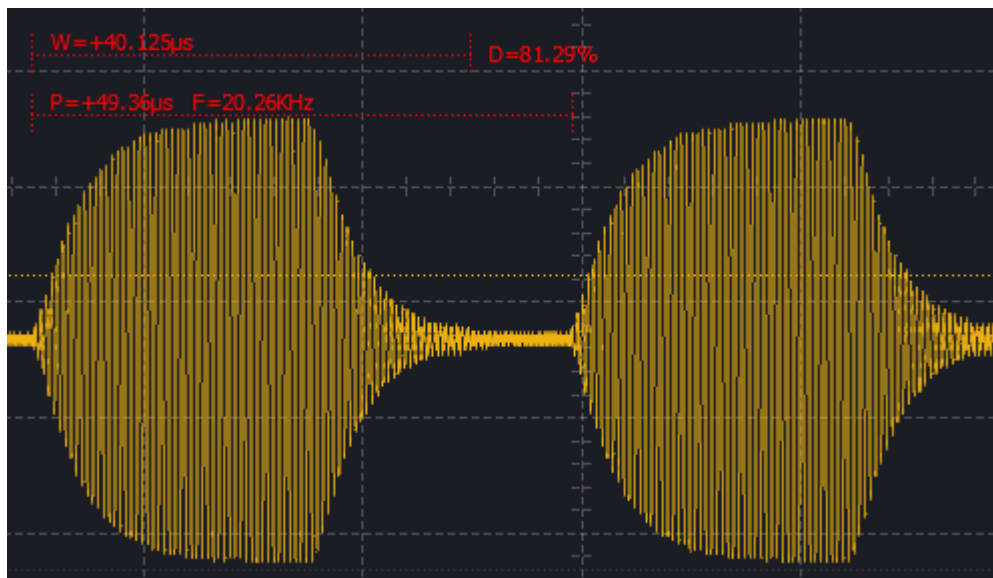

Figure 3-17
**Horizontal Measure Ruler:** in blank area of the wave window, move mouse to the start point, double click the left button of mouse, move mouse to the next point, double click again, and then move mouse to the end point, double click and finish setup the horizontal measure ruler. As Figure 3-17 shows, horizontal measure ruler can be used to measure width, frequency and duty cycle. This ruler can be cleared by double click in the wave window.